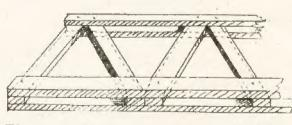

Fig. 5—Example of sandwich type of girder work
The second method is that of sandwiching the diagonal girders (cut to a slightly greater length) between duplicated top and bottom girders, as depicted in Fig. 5. It will be seen that fine panel-pins may be used to produce a much stronger finished assembly.
The film spool holder, Fig. 5 (J) is cut to the shape and size given. In the small hole shown drive a 1½in. brass screw partly in. Saw the head off, leaving the shank to act as a pin on which the spool can work. The wooden spool on which the film is wound, works quite well and there is really no need to purchase a special metal one.